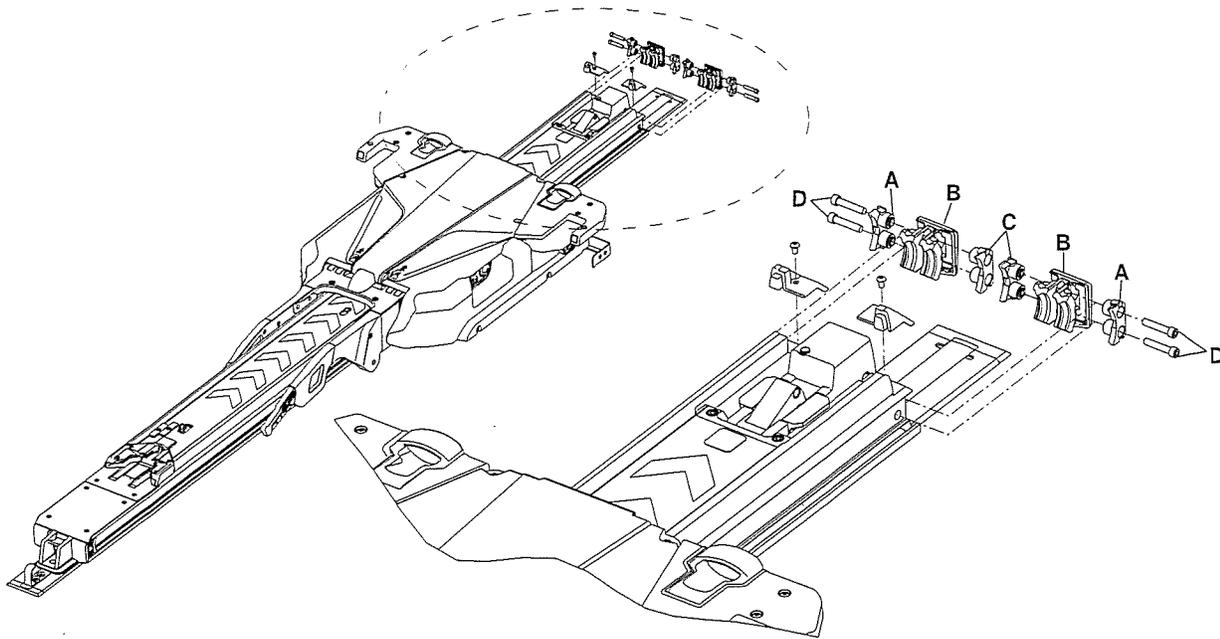

Figure 15: Assemble bumper block
25. Assemble the bumper block. Align the supplied dead stop block (6390-001-244) (with through holes) (A) with the supplied dead stop bumper (6390-001-243) (B) and the supplied inner dead stop block (6390-001-246) (with threaded holes) (C) (Figure 15 on page 24).
28. Using a 3/16" hex wrench, install the four supplied socket head cap screws (0004-662-000) (two for each side) (D) into the transfer assembly (Figure 15 on page 24).